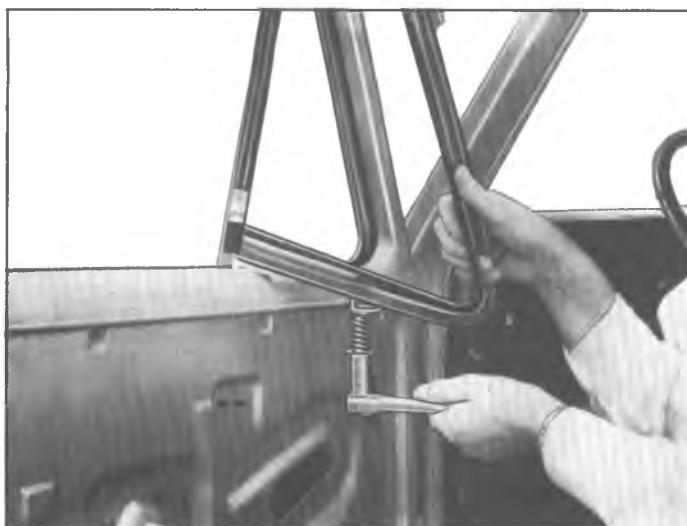

Fig. 17G—Adjusting Ventilator Tension
1. Adjust the ventilator adjusting nut by turning clockwise to increase operating tension, as shown in figure 17G.